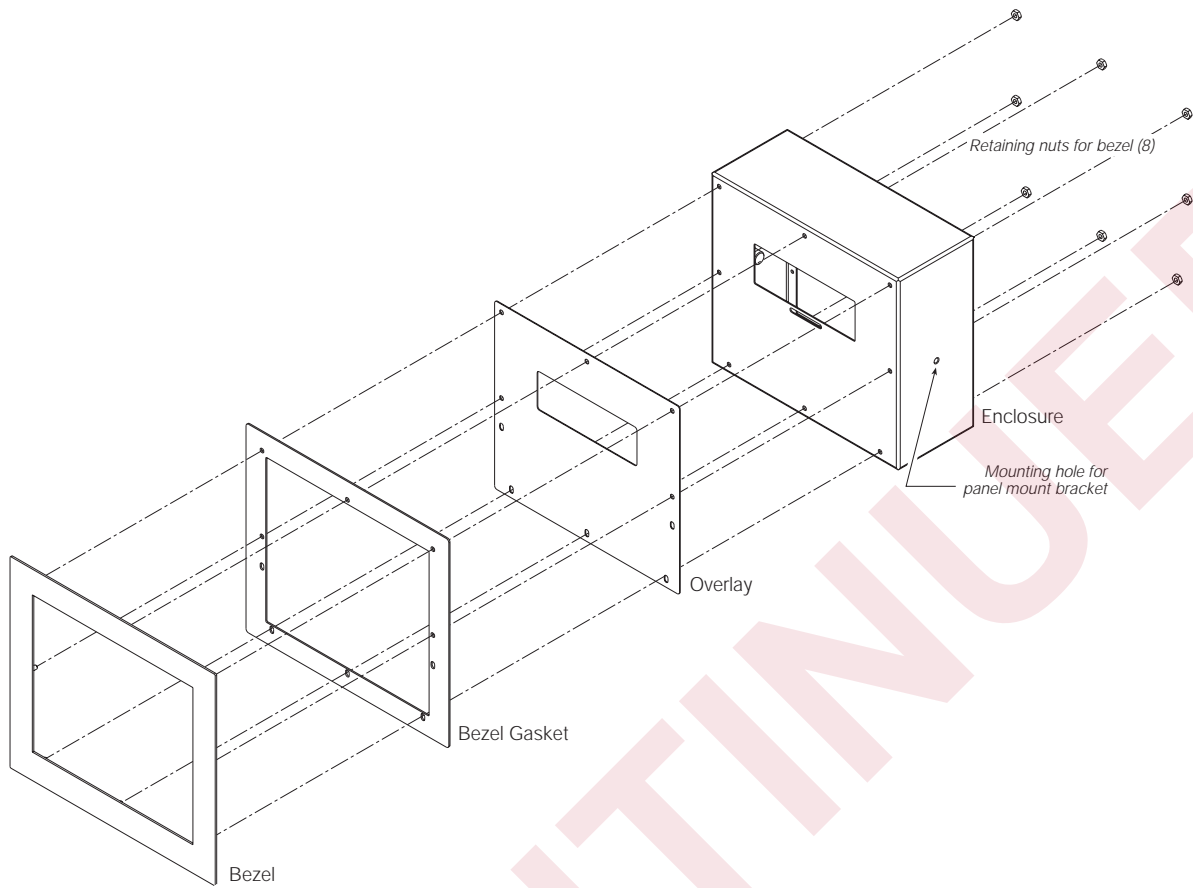

Figure 3. IQ plus 510/710 Bezel and Gasket Replacement
7. Fit the panel mount gasket and bezel to the front of the indicator then replace the nuts removed in step 5. See Figure 3 on page 2.